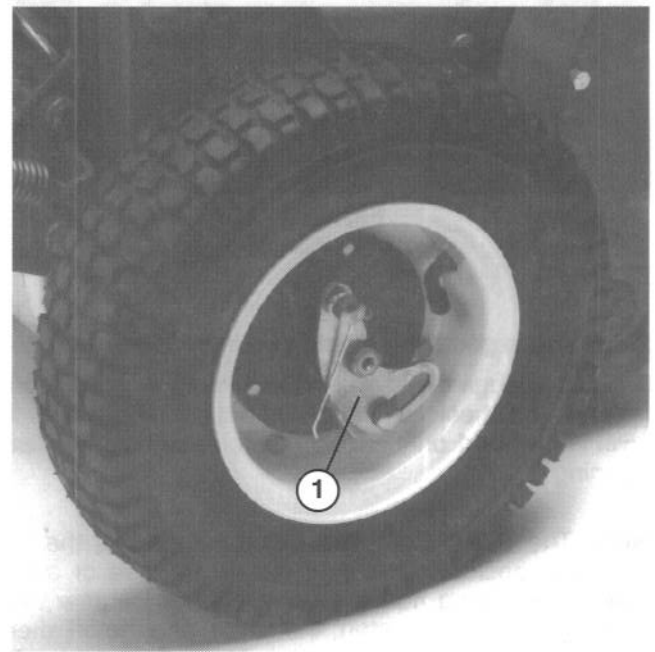

Figure 3
2. Apply Never-Seez to the exposed ends of axles and slide wheel onto axle (Fig. 3).
3. Pivot wheel locking clip away from center of wheel allowing wheel to slide farther onto axle (Fig. 3).